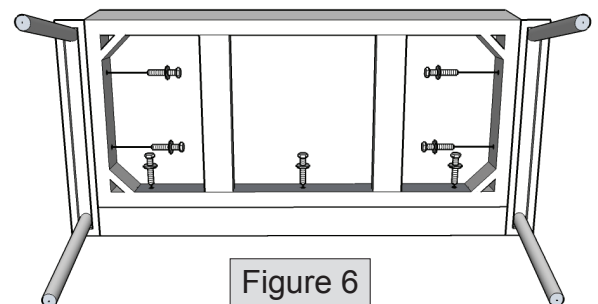

Figure 6
9. Attach seat cushion to back cushion and arm frames using 3" hex bolts and washers, as shown in figure 6. Keep all bolts slightly loose for now.